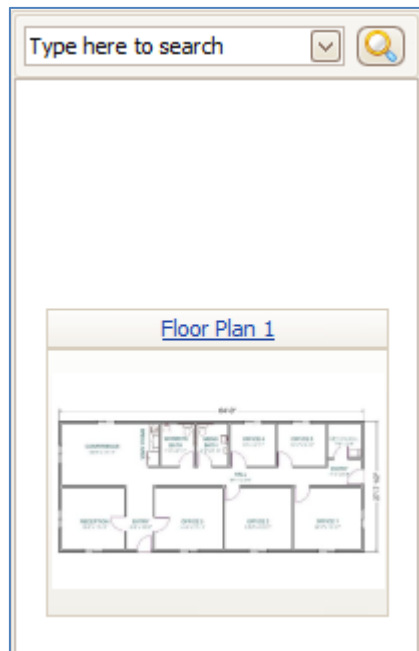

Figure 282 - Floor Plan Thumbnail
3. The right side of the floor plan screen will display the thumbnail for the floor plan available (Refer **Figure 282**).